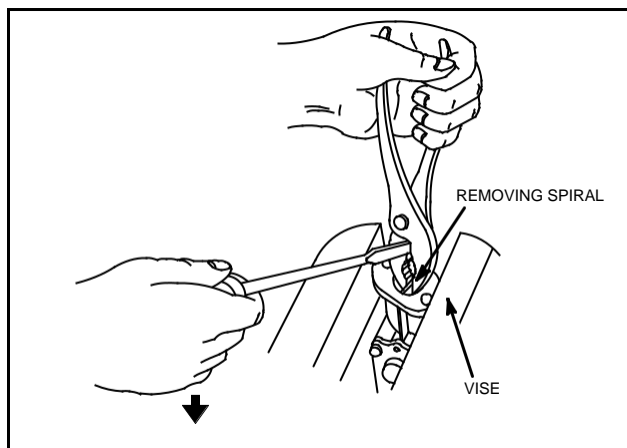

Fig. 176 - REMOVING SPIRAL
2. Grasp spiral firmly with a pair of pliers, as shown, Fig. 176.
4. Using edge of vise, push down on screwdriver handle to pry out spiral, Fig. 176.